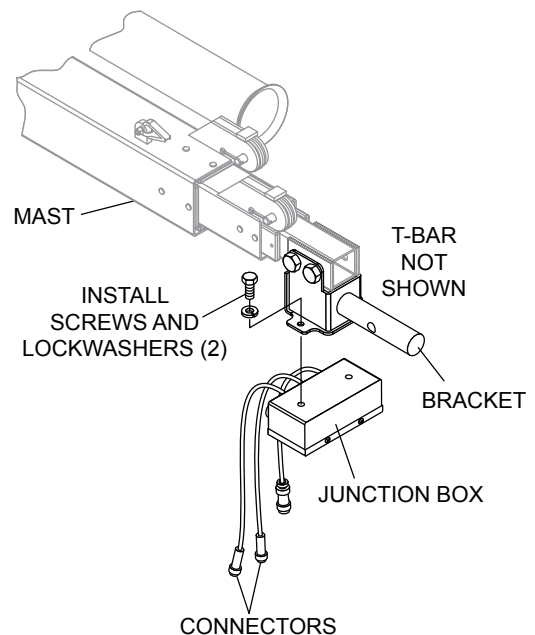

Figure 12. Junction Box Installation
3. Attach junction box (Figure 12) to lamp mounting bracket with the bolts and washers provided.